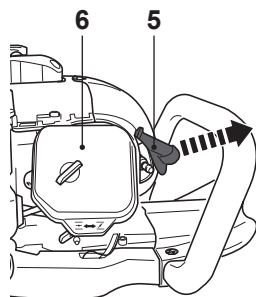

Fig. 18
- > Unplug the spark plug connector (5) (Fig. 18).